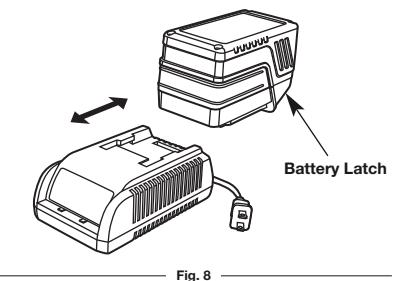

Fig. 8
- Insert the battery into the charger (Fig. 8).
- The battery may be removed or stored in the charger once it is fully charged; however, it is recommended to disconnect the plug from the wall outlet/receptacle. To remove the battery, hold down the battery latch and slide the battery off the charger (Fig. 8).